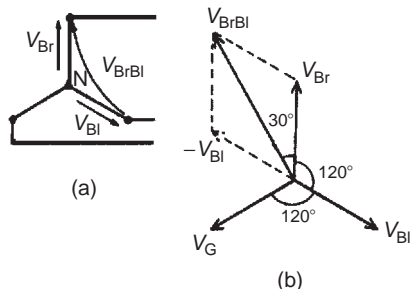

Figure 23.4
- (vi) The line voltage, V_{BrBl} , shown in Fig. 23.4(a) is given by $V_{BrBl} = V_{Br} - V_{Bl}$ (V_{Bl} is negative since it is in the opposite direction to V_{BrBl}). In the phasor diagram of Fig. 23.4(b), phasor V_{Bl} is reversed (shown by the broken line) and then added phasorially to V_{Br} (i.e. $V_{BrBl} = V_{Br} + (-V_{Bl})$). By trigonometry, or by measurement, $V_{BrBl} = \sqrt{3} V_{Br}$, i.e. for a balanced star connection: